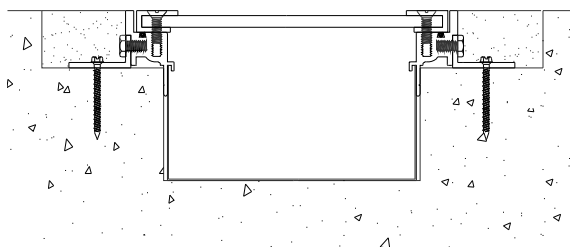

Figure 8
**STEP 11.** Place the cover plate back into its installed position on the frame. Attach the cover plate to the frame using the cover plate bolts, see Figure 8.